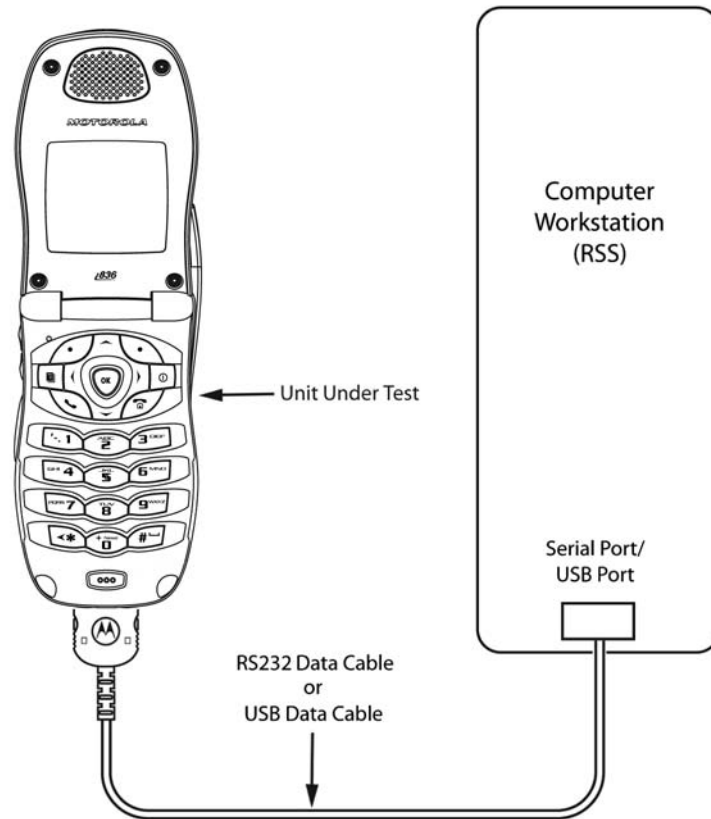

Figure 6-3. Data Cable Programming Setup
- Correct USB Data Cable for iDEN unit (see Figure 6-3).